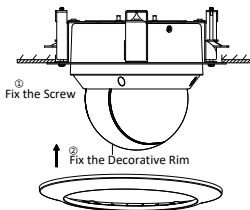

Figure 2-47 Assemble the Decorative Rim
8. Fix the decorative rim with the bubble and the decorative rim will be attached to the in-ceiling bracket automatically, as shown in Figure 2-47.